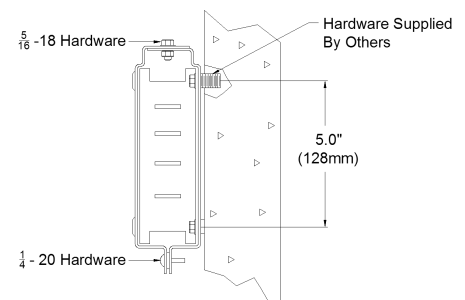

Figure 4
- 4.1.2.1 Attach one hanger half to wall as shown. (See Fig. 4)